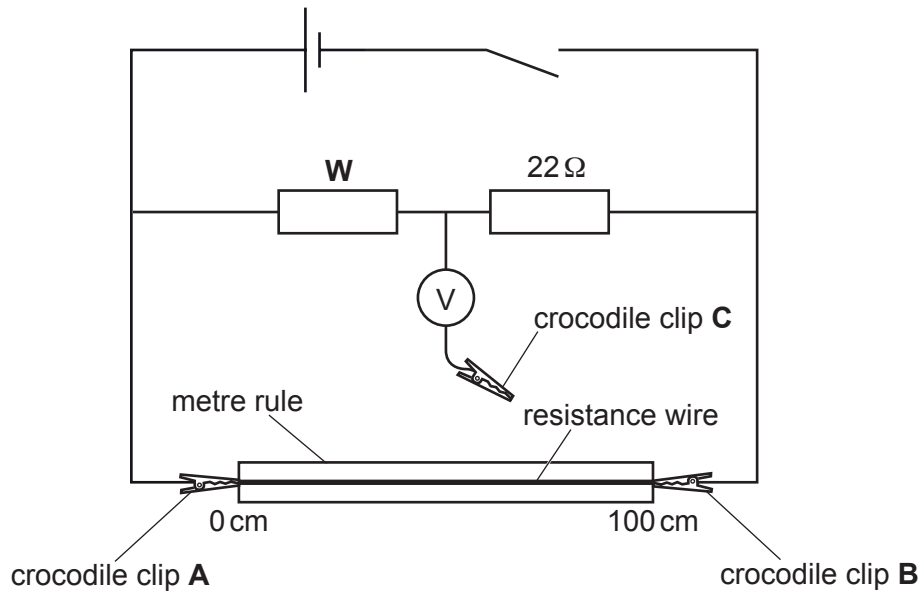

Fig. 4.1
sufficient <ul style="list-style-type: none"> • leads • crocodile clips to set up the circuit shown in Fig. 4.1. (see note 4.4)	8 3
4.4 The circuit should be assembled for the candidate as shown in Fig. 4.1.
Ensure circuit is assembled as shown in Fig. 4.1. Check that the switch is open. Disconnect crocodile clip **C** from the resistance wire if necessary. Check that the cell is still 1.5 V.